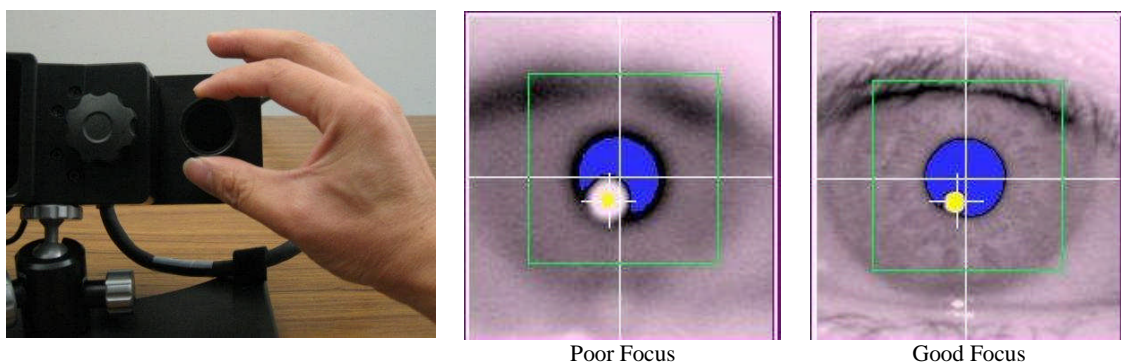

Figure 3-7: Focusing the Desktop Mount Camera
- 2) Use the left or right cursor key to select the zoomed camera view. Adjust the camera focusing by turning the focusing ring on the lens. Performing the adjustments from the side of the mount with the lens will prevent the illumination or the camera's view from being blocked. Look closely at the eye image on the zoomed view while turning the focusing ring until the eye image is clear. If a turquoise circle (CR signal) appears near the pupil, the best focus will minimize the size of this turquoise circle (see Figure 3-7).